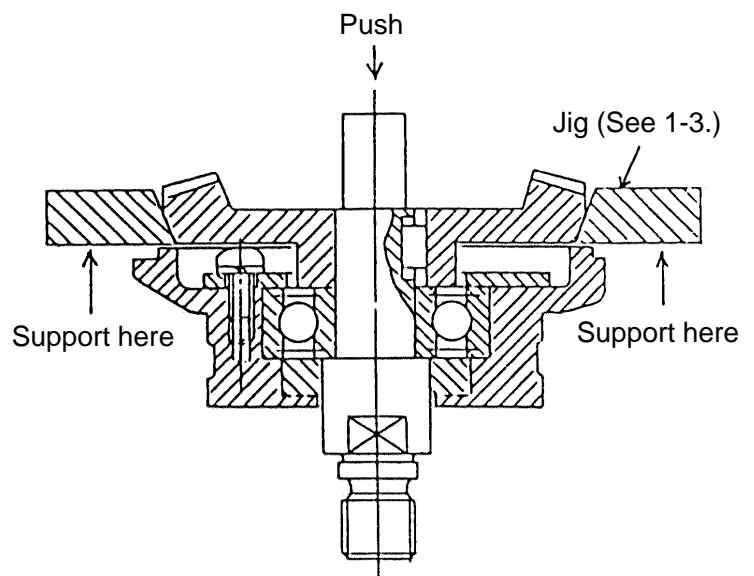

Fig. 2
After the Packing Gland (28) has been removed from the Gear Cover Ass'y (6), support the Gear (20) with an appropriate jig (see below) and push down on the tip of the Spindle (25) with an arbor press as illustrated in Fig. 2 to separate the Gear.